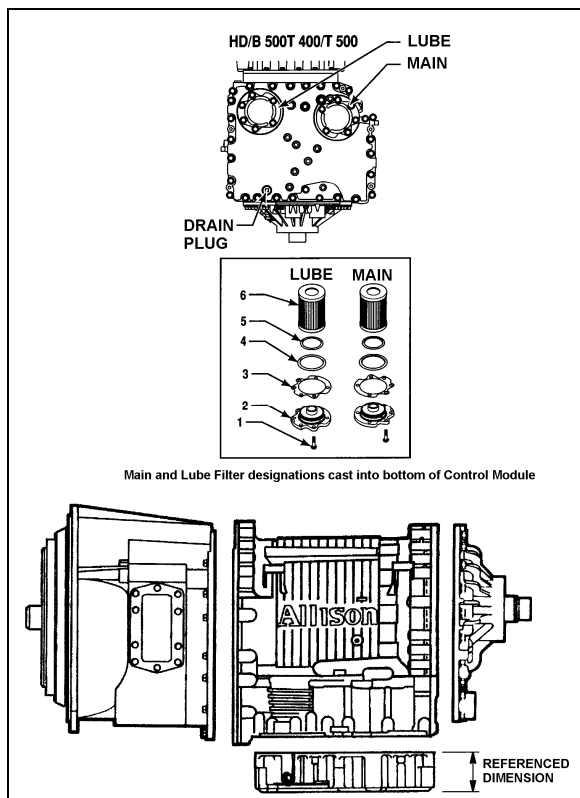

FIGURE 7: DRAIN PLUG AND FILTERS
- Remove the drain plug from under the transmission (Fig. 7) and allow the oil to drain into a suitable container. Check the condition of the oil as described previously.
- To replace the integral filters, remove twelve bolts (6 on each cover), two filter covers, two O-rings, two square cut seals and the two filters from the bottom of the control module (Fig. 7).